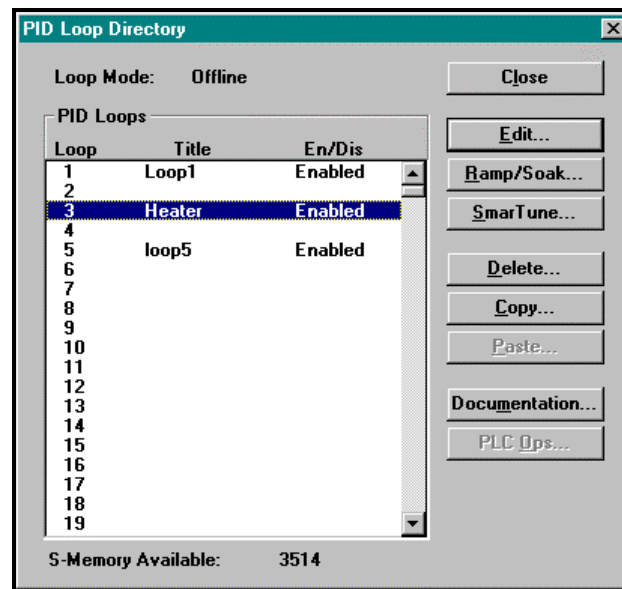

Figure 9.1a
2. The PID Loop Directory dialog box appears (Figure 9.1a).